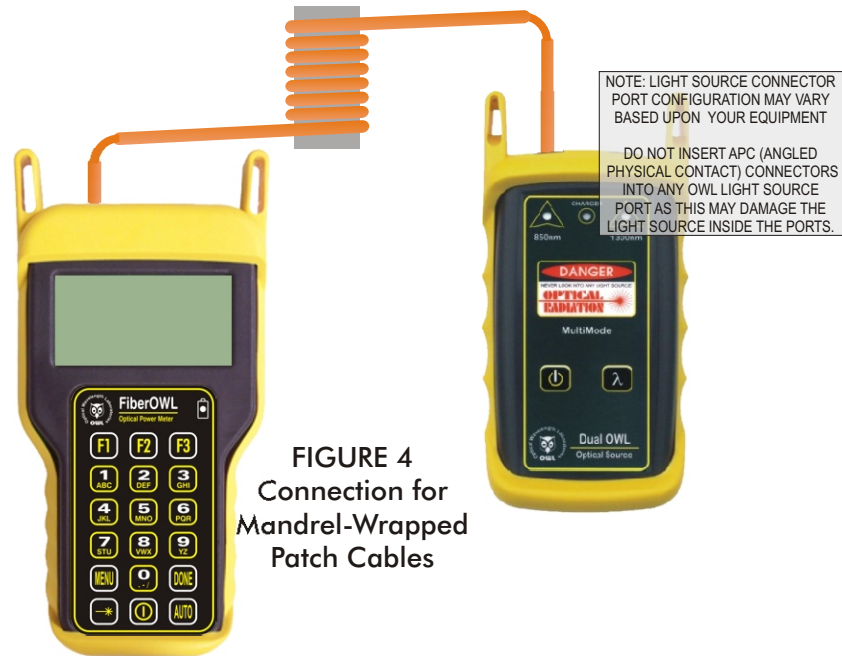

FIGURE 4
STEP 7 Connect the second patch cable between the Fiber OWL 4 and the Dual OWL (straight cable – use Figure 3; mandrel-wrapped cable – use Figure 4).
STEP 10 Connect a mandrel-wrapped patch cable between the Fiber OWL 4 and the Dual OWL as shown in Figure 4.